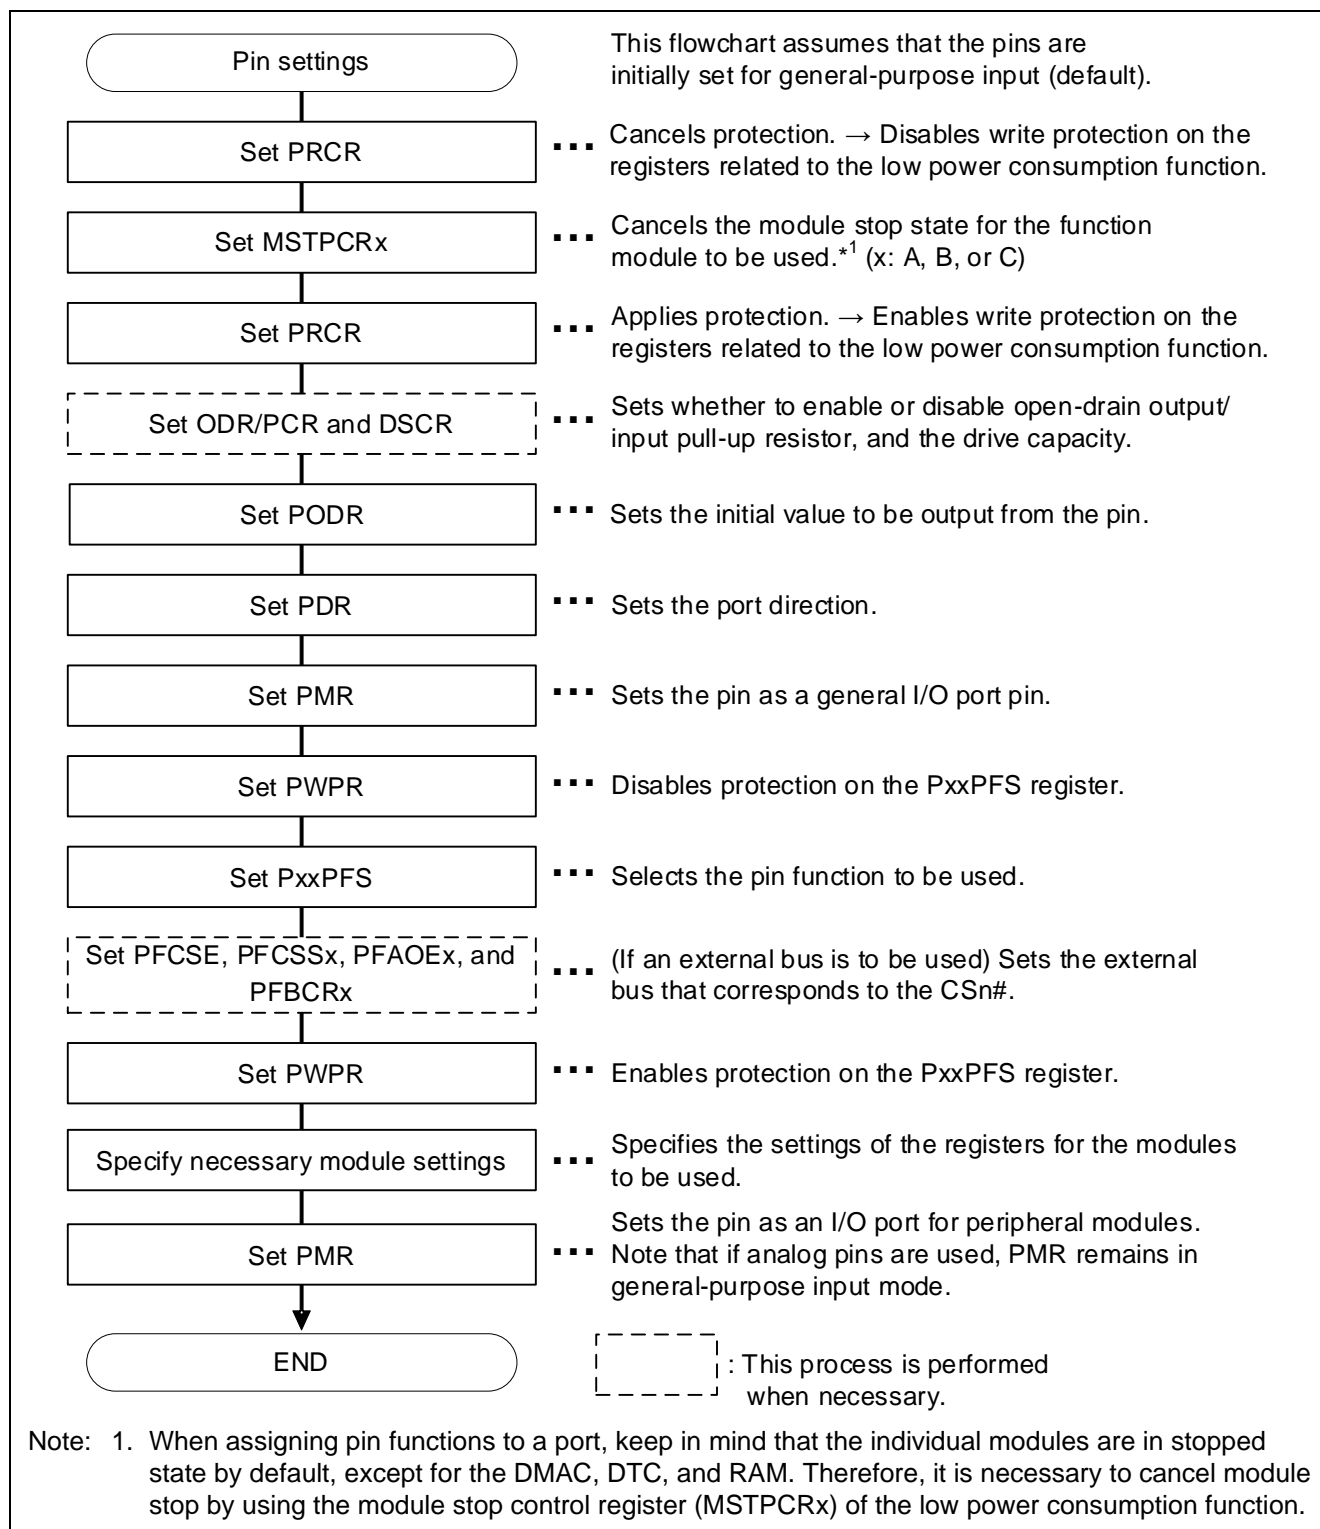

Figure 2.3 Sequence of Operations for Configuring Pin Functions on the RX231 Device
- Figure 2.3 shows the peripheral module initialization sequence.
Figure 2.3 shows the sequence of initialization operations needed to use an I/O port on the RX231 device for pin functions. For example settings for using peripheral functions, including general-purpose input/output, refer to the relevant chapters.